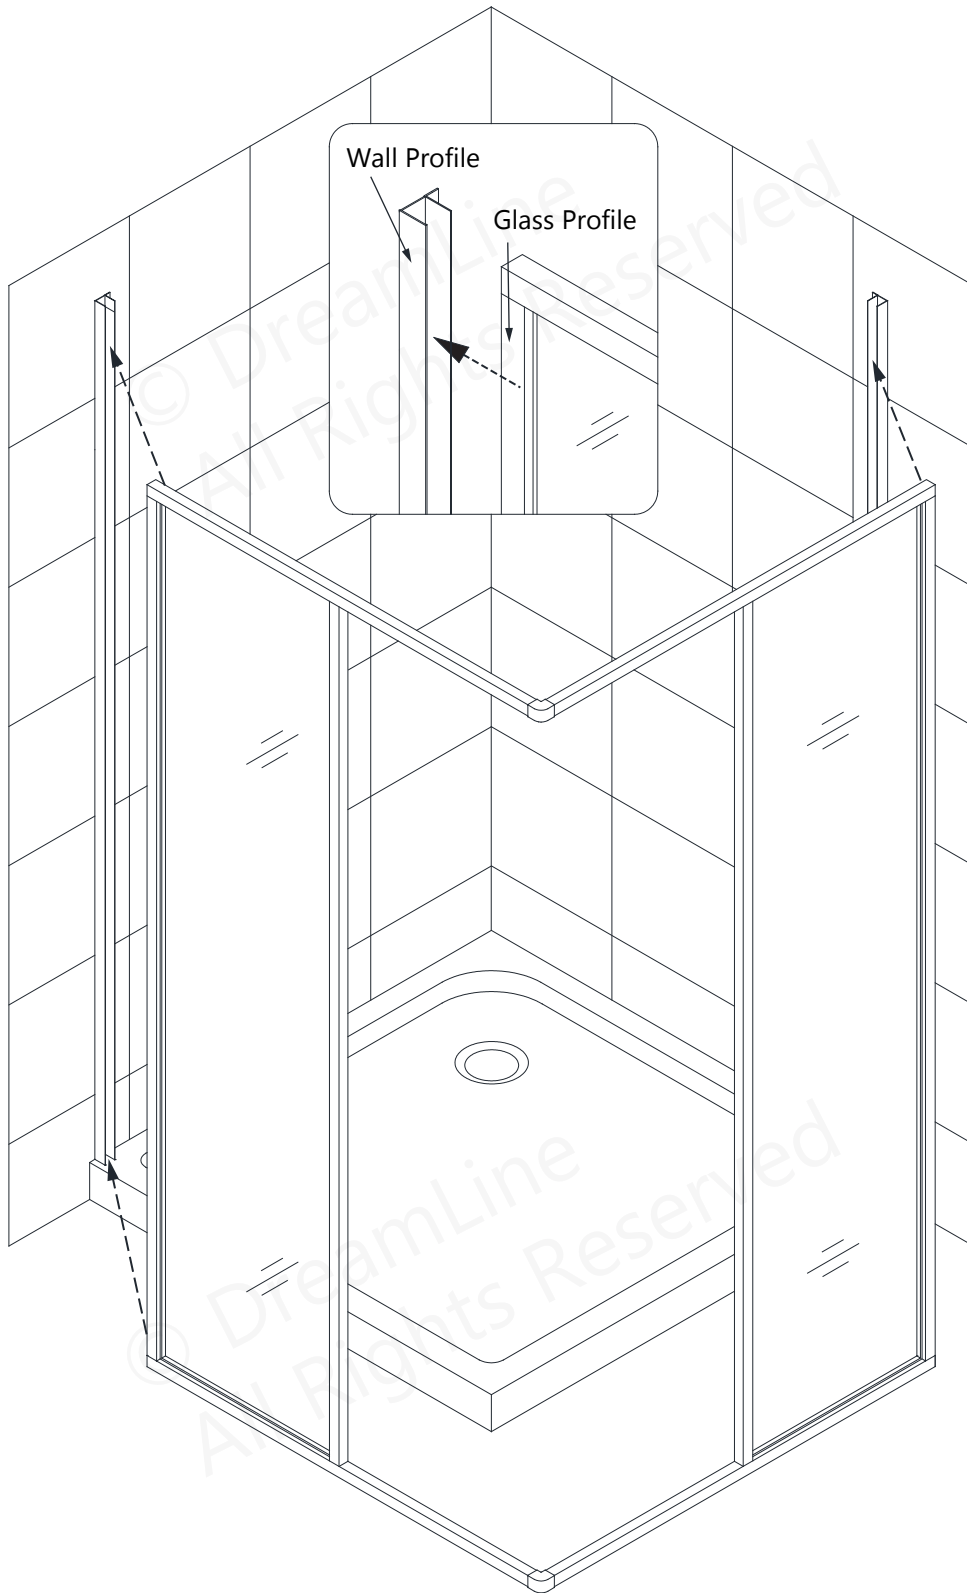

Fig 4
4. Align the assembled **Panel Glass Panels (#02)** onto the Shower base and slide the **Glass Profiles** into the installed **Wall Profiles (#01)**. (**Fig 4**)